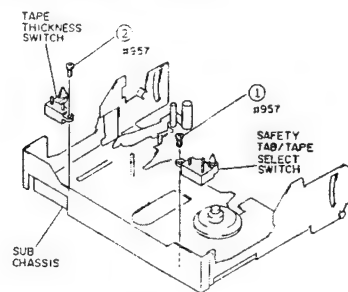
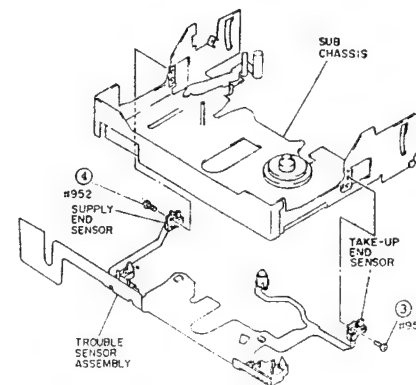

Fig. 2-60
Fig. 2-61
- 1) Remove one (1) screw holding the safety tab/tape select switch. (See Fig. 2-60)
- 2) Remove one (1) screw holding the tape thickness switch
- 3) Remove one (1) screw holding the take-up end sensor. (See Fig. 2-61)
- 4) Remove one (1) screw holding the supply end sensor.